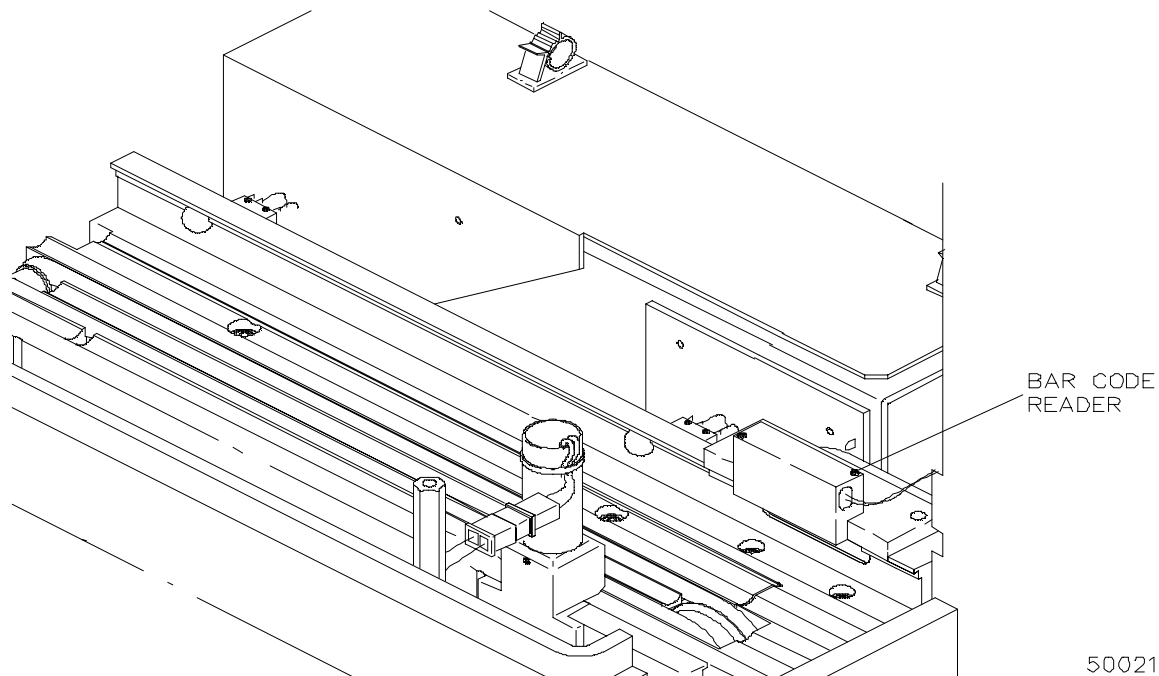

Figure 4-21. Bar Code Reader
5. Remove Bar Code Reader Assy mounting hardware from two places (**Figure 4-21**).